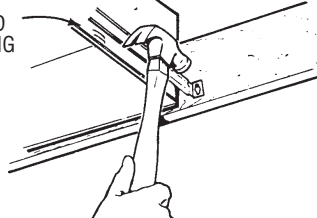

FIG. 9
12. Snap the damper/duct connector onto housing. Make sure that tabs on the connector lock in housing slots. (Top of damper/duct connector will be flush with top of housing.) (FIG. 9)